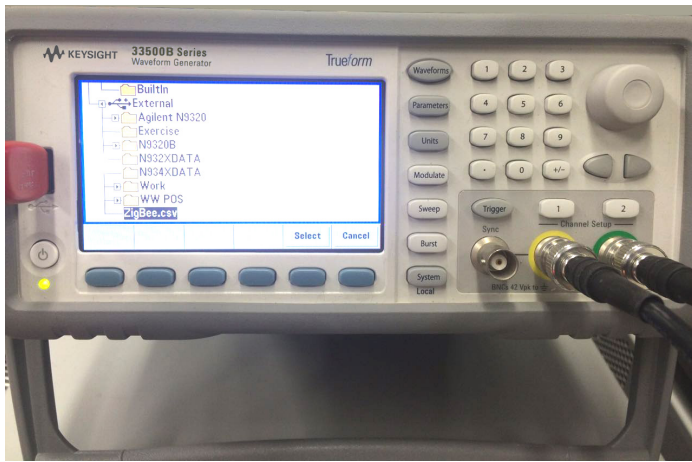

Figure 4.
- 2.2 Select **Select Data File**, then rotate the knob to highlight **External**, press the button to the lower right side of the knob. See Figure 4.